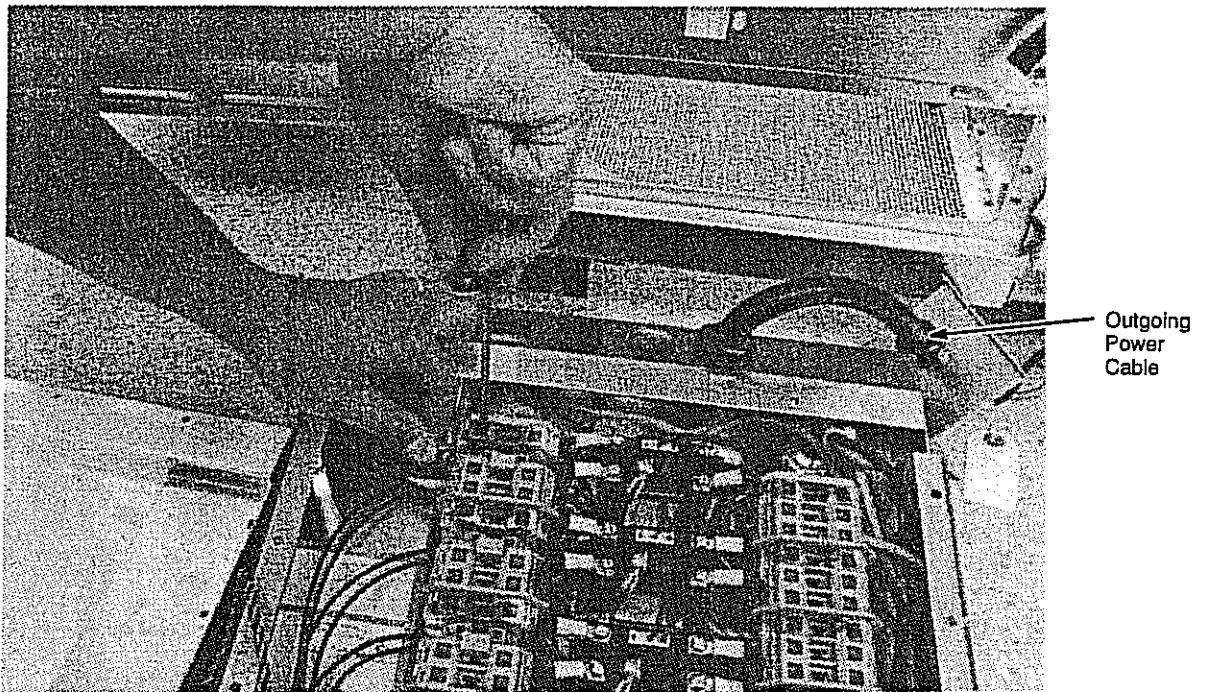

Figure 7-63. Incoming Power Module Terminal Block
10. To disconnect the incoming power cable (part number 90086600), first press down firmly with a flat-bladed screwdriver and pull the line (black) and neutral (white) wires from the incoming power module terminal block. Refer to Figure 7-63.
11. After disconnecting the line and neutral wires, disconnect the incoming power cable ground (green) wire from the incoming power module using a 3/8-inch nut driver or a 3/8-inch socket. Refer to Figure 7-63.
11. To disconnect the incoming power cable, first press down firmly with a flat-bladed screwdriver and pull the wires marked L1 (black) and L2 (white) from the incoming power module terminal block. Refer to Figure 7-63.
12. After disconnecting the L1 and L2 wires, disconnect the outgoing power cable ground (green) wire from the incoming power module using a 3/8-inch nut driver or a 3/8-inch socket. Refer to Figure 7-63.